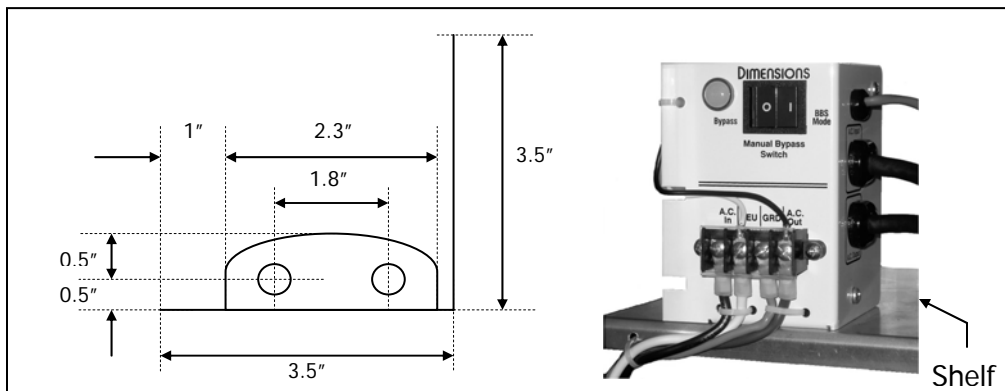
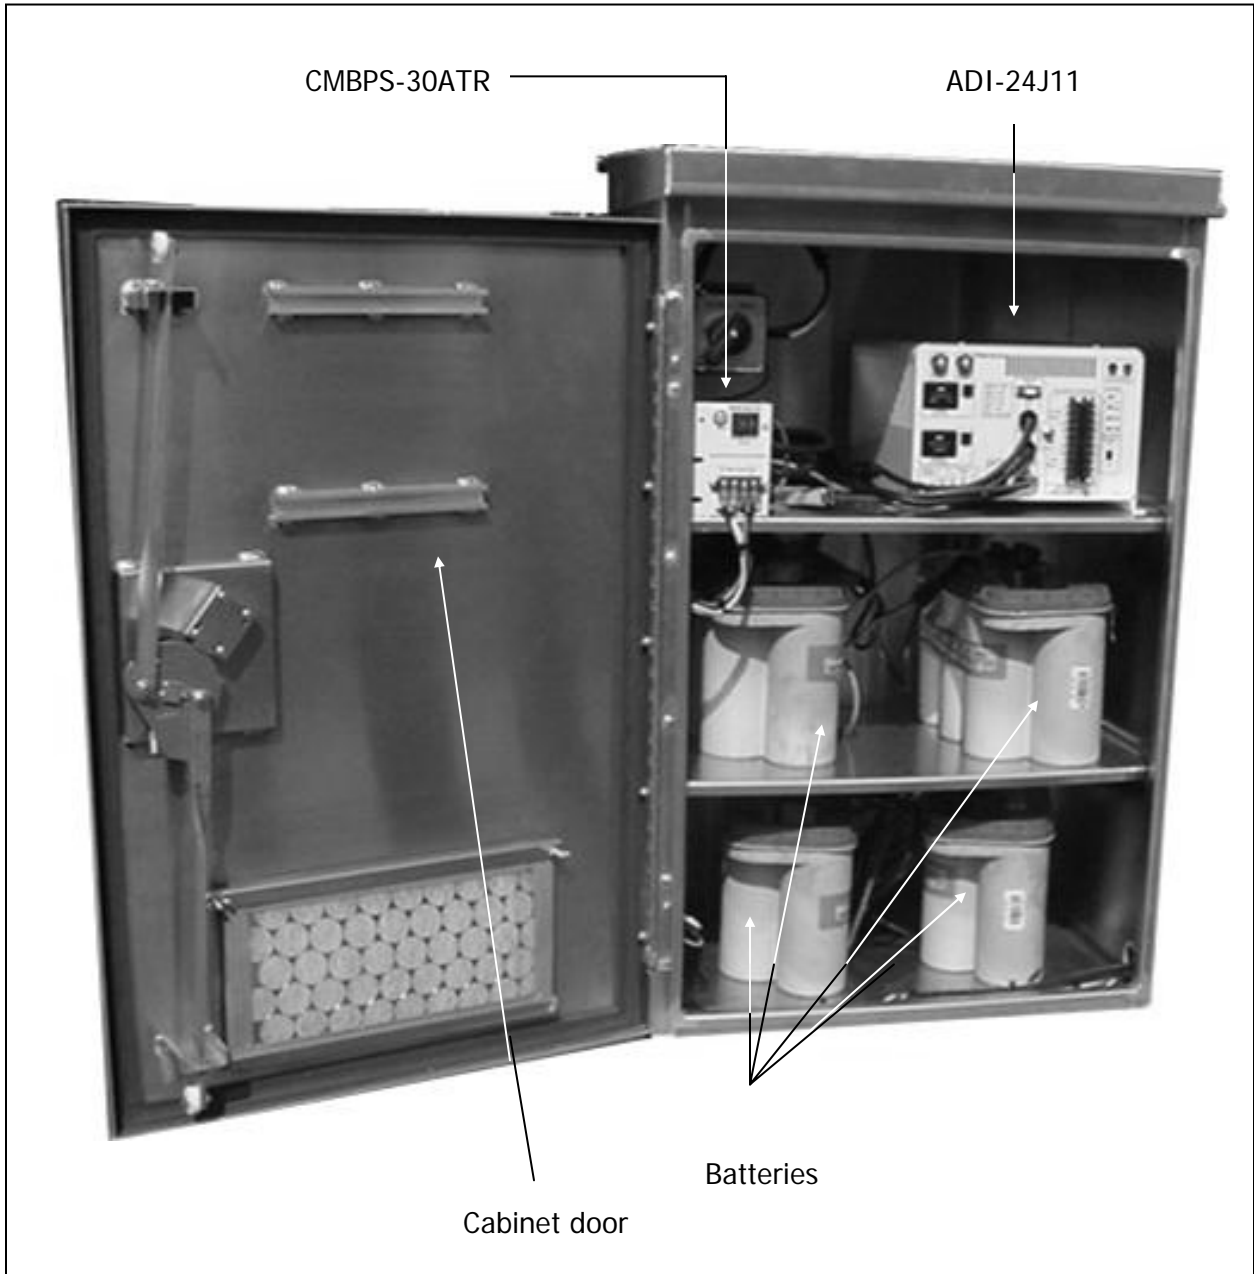

FIGURE 4: CMBPS-30ATR open frame shelf mounting and footprints
FIGURE 7 BBS components mounted in a Stand Alone Cabinet
- a) Locate a secure and appropriate cabinet shelf as shown in figure 4 below, see also figure 7 on page 12.
- b) Using the washers and bolts provided fix the combined manual bypass switch - 30A transfer relay (open frame) as shown on Figures 4 below.